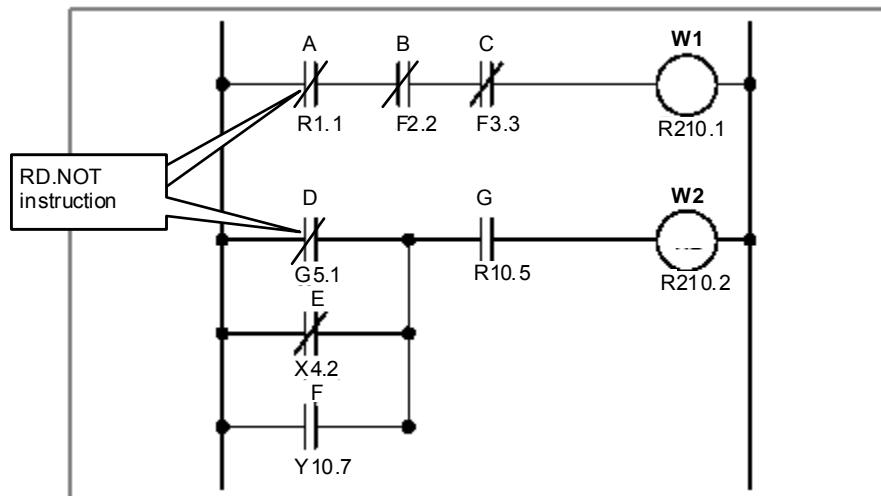

Fig. 4.1.3
- (1) Use this instruction to start coding from contact B ($-|/|-$). For examples of how the RD.NOT instruction is used, see the ladder diagram shown in Fig. 4.1.3 and the input example in the mnemonic format given in Table 4.1.3.
- (2) The instruction reads and reverses the logical status of the signal at the specified address and sets it in the ST0 bit.
- (3) The signal (contact) to be read by the RD.NOT instruction may be any contact B that is input as a logical condition of a coil.